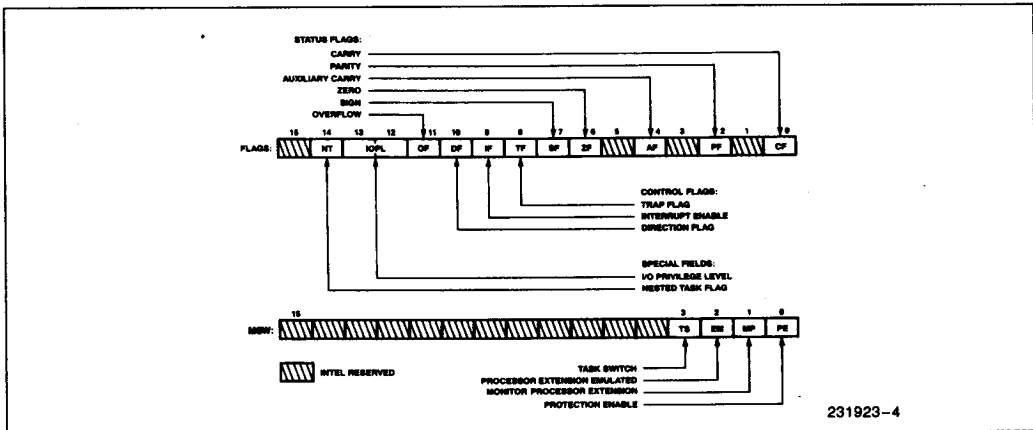

Figure 3a. Status and Control Register Bit Functions
**Status and Control Registers:** The 3 16-bit special purpose registers in figure 3A record or control certain aspects of the 80C286 processor state including the Instruction Pointer, which contains the offset address of the next sequential instruction to be executed.